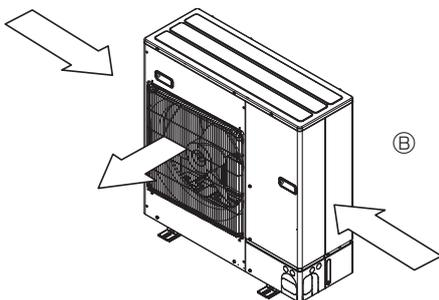

Fig. 3-5
- Position the unit so that the air outlet blows perpendicularly to the seasonal wind direction, if possible. (Fig. 3-5)
(2) When installing a single outdoor unit (Refer to the last page)